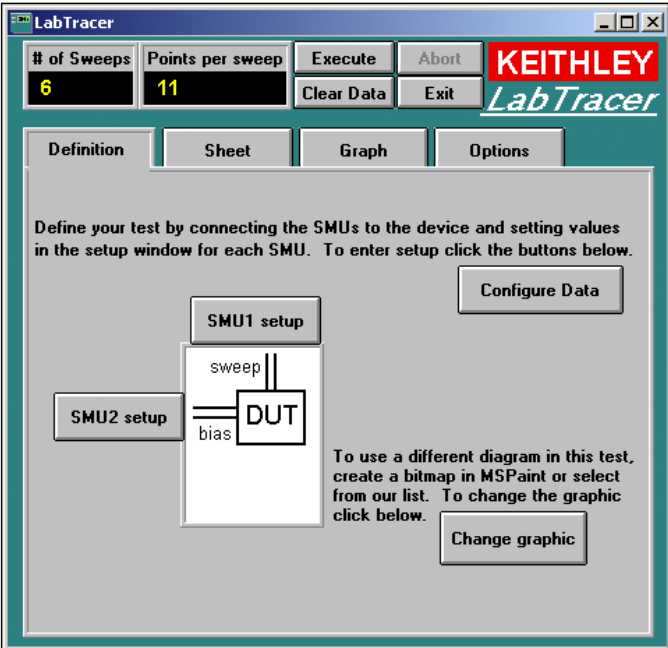
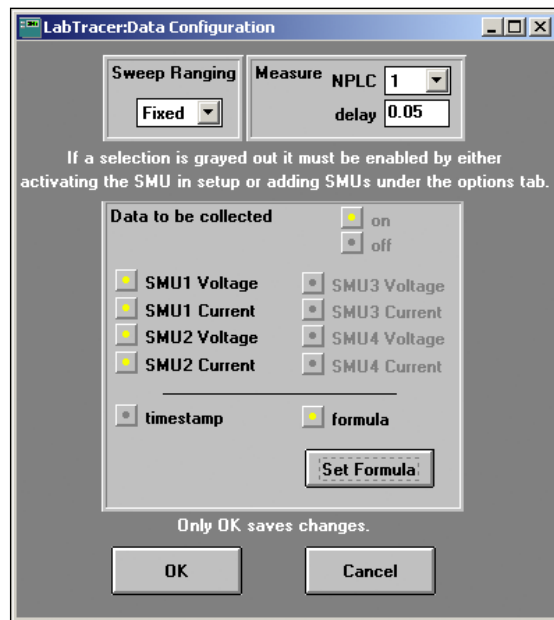
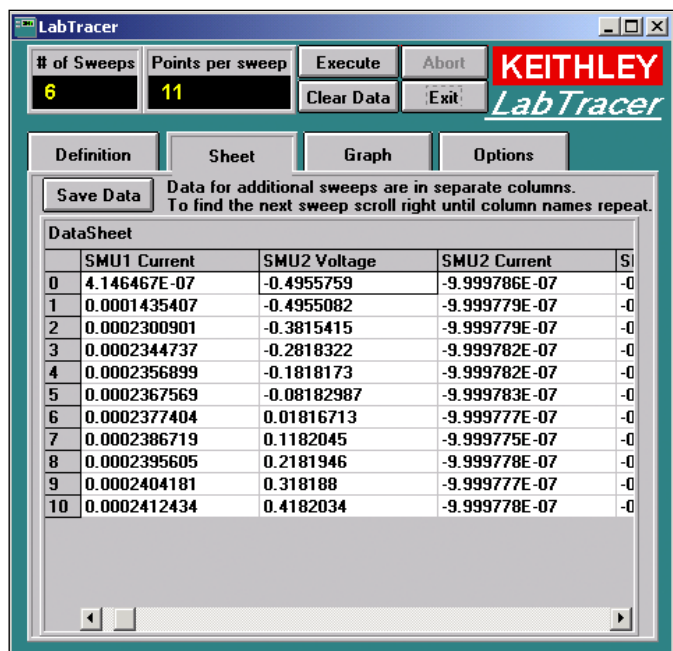
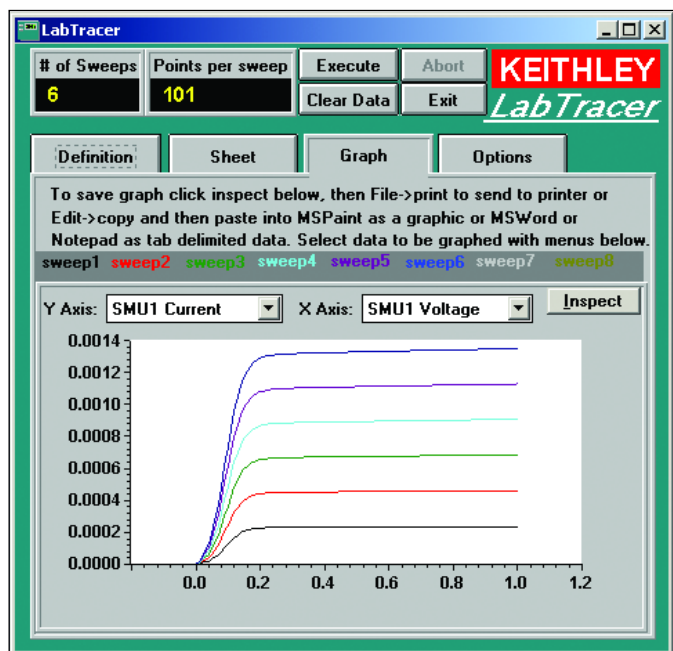

Figure 5. Definition tab
Figure 8. Data configuration
Figure 10. Sheet
Figure 11. Graph
The LabTracer software supports making many standard tests with SourceMeter instruments. The following example describes a test that uses two Model 2400s to create a transistor curve family. The variables settings shown in **Figures 5–9** will return data similar to that shown in **Figures 10 and 11** when connected to a standard BJT device like the PNP 3906 used for this example.
- 3. Choose a bitmap to represent the device under test from the **Definition** panel (**Figure 5**). Click the **Change Graphic** button to select from the available images.
- Enter the data configuration panel (Figure 8) by clicking on the **Configure Data** button on the **Definition** panel (Figure 5). When the box to the left of the data set is yellow this data will be collected. Adjust these settings as needed, then set the ranging and speed variables.
- Start the test using the **Execute** button. To observe the results, click either the **Data** sheet tab (Figure 10) to see the data in a table or the **Graph** sheet tab (Figure 11) to see it in graphical form.